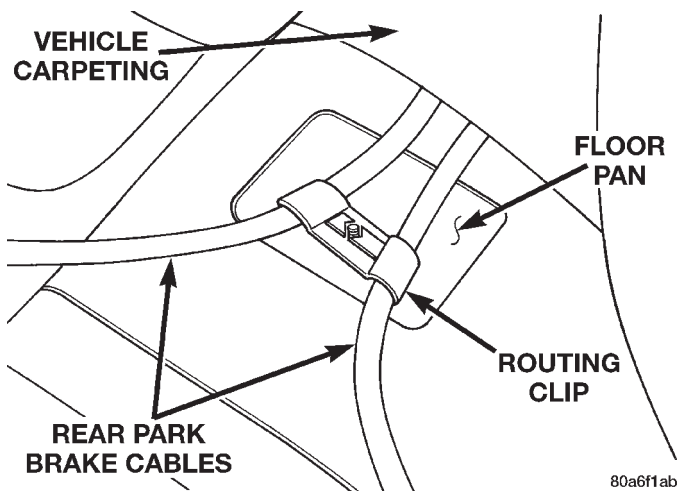

Fig. 138 Park Brake Cable Attachment To Floor Pan
(11) Remove the rear seat lower cushion from the vehicle.
(12) Remove scuff plates from right and left door sills. Scuff plates are attached to door sills using clips on bottom of scuff plates. Remove by carefully prying scuff plate retaining clips out of door sills.
(13) Remove the quarter trim panel from both sides of the vehicle. Refer to Group 23 Body in this group of the service manual for the required removal procedure.
(14) Remove the 2 wiring harness routing clips from the cross car beam.
(15) Remove the 2 clips attaching the carpeting to the cross car beam.
(16) Fold rear carpeting forward to expose park brake cables.
(17) Remove the routing clip (Fig. 138) attaching the rear park brake cables to the floor pan.
(13) Install the routing bracket holding park brake cables to the floor pan of the vehicle (Fig. 138).